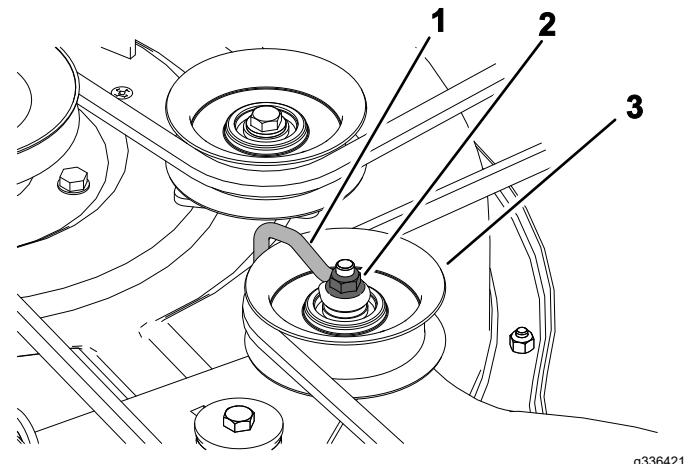

Figure 48
- Note:** Position the wire form against the idler arm as shown in Figure 48.